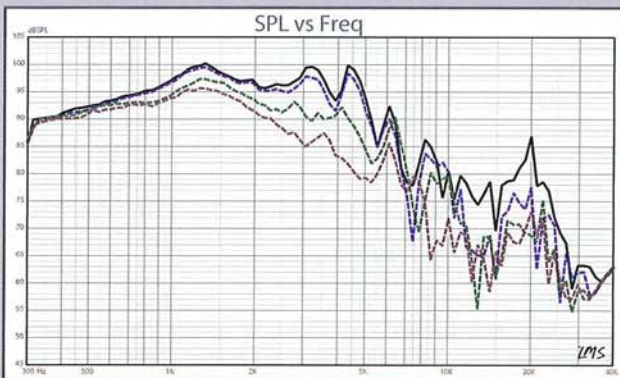
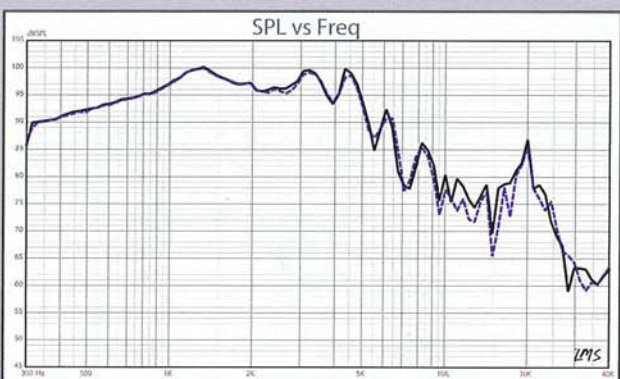

FIGURE 11: Faltal Pro 6PR150 on- and off-axis frequency response.
FIGURE 12: Faltal Pro 6PR150 two-sample SPL comparison.
**Figure 11** illustrates the off-axis frequency response at 0, 15, 30, and 45°. -3dB at 30° with respect to the on-axis curve occurs at 2.1kHz, somewhat lower than most 6.5" drivers, but cross point 2.1-3kHz or lower would be appropriate. And finally, **Fig. 12** gives the two-sample SPL comparisons for the 6.5" Faital driver, showing a very close match throughout the operating range.